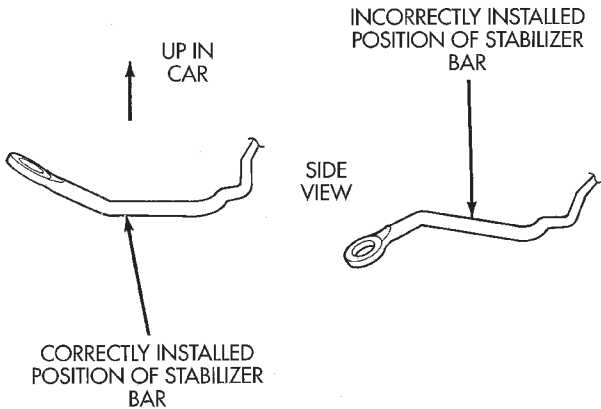

Fig. 8 Installed Position Of Stabilizer Bar In Vehicle
- (1) Install stabilizer bar back in vehicle with the bushings removed using the reverse sequence of removal.
- (2) When stabilizer bar is installed in vehicle, it must be installed with the bend in the end of the stabilizer bar positioned up in vehicle when viewed from the side (Fig. 8).